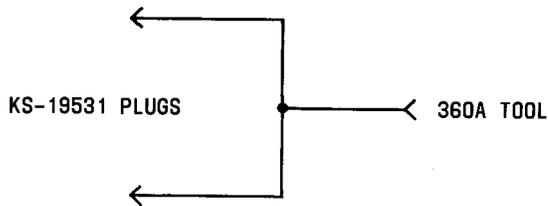

Fig. 1—Wye Adapter
**Note 1:** ◆Wye adapters (two required) are locally constructed test cords (see Fig. 1). Each cord is made with 2-pin plugs, such as KS-19531, and one female connector, such as the 360A tool. Insulated wire, 18-gauge or 20-gauge, may be used to join the connectors. Each lead from the Variac should be terminated with a 360A tool, or equivalent, to facilitate connection to the Wye adapter.◆